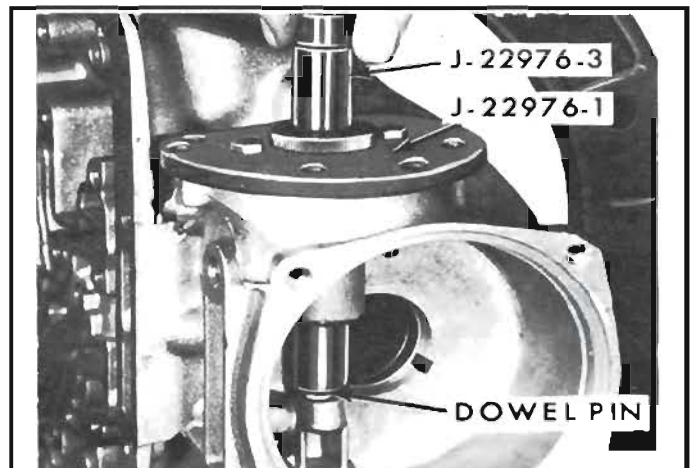

Figure 117 Alignment Arbor
6. Place the alignment arbor J-22976-3 into the drill bushing fixture and down into the governor bore until it bottoms on the dowel pin. *See Figure 117.*